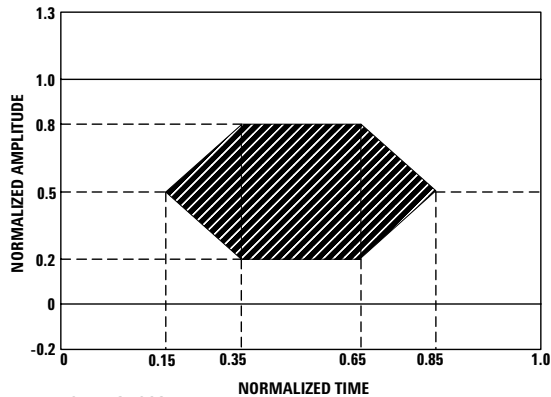

Figure 9a. FC1063 Transmitter eye mask diagram
5. An eye diagram (Figures 9a and 9b) specifies laser transmitter pulse response characteristics. The characteristics include rise time, fall time, pulse undershoot, and ringing, all of which are controlled to prevent excessive degradation of the receiver sensitivity. The output optical waveform @ 1.0625 Gb/s complies with the requirements of the eye mask discussed in section 6.2.1 and Fig 16 of FC-PI Rev 13. The output optical waveform @ 1.25 Gb/s complies with the requirements of the eye mask discussed in section 38.6.5 and Fig 38-2 of IEEE 802.3.